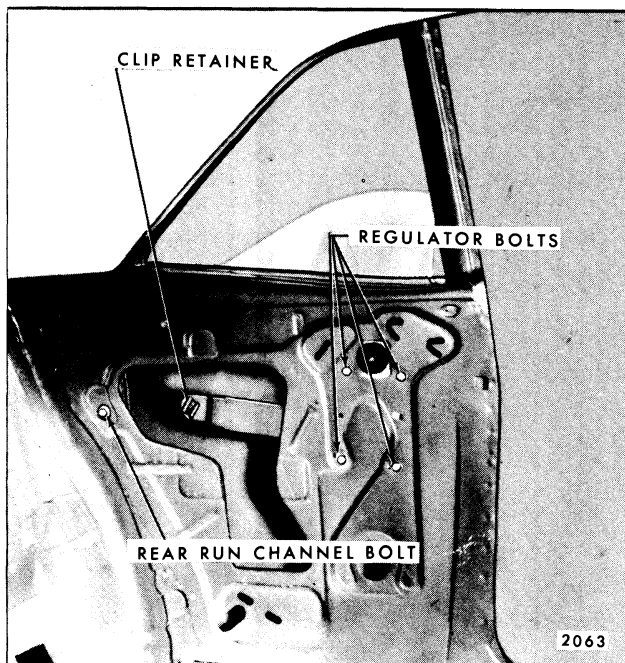

Fig. 6-36-Rear Quarter Hardware Attachment - "X" Closed Styles
4. Remove regulator attaching bolts. Figure 6-36 is typical of closed style regulator attachment.